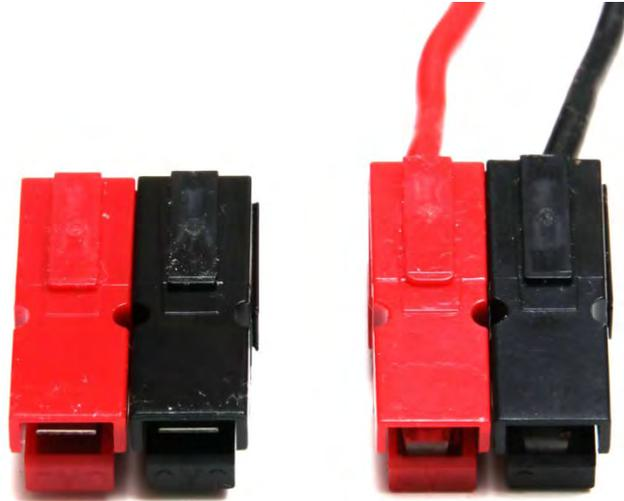

Figure 13. Proper Anderson Powerpole polarity to match tunnel wiring
- To interface with the PCC, wires should be terminated with Anderson Powerpole connectors, PP15-45 (a red and a black for positive and negative, respectively). See Figure 13 for correct polarity. Incorrect polarity must be corrected before testing.
- Teams are expected to provide their own Powerpole connectors of an appropriate size—15 amperes (A), 30 A, or 45 A—that are specified to handle wire gauges from 10–20 American wire gauge. Each team can choose the wire size it wants to use in this range as long as the appropriate current-carrying capacities are considered. All three pin sizes fit into the same housing (PP15-45), as stated previously.